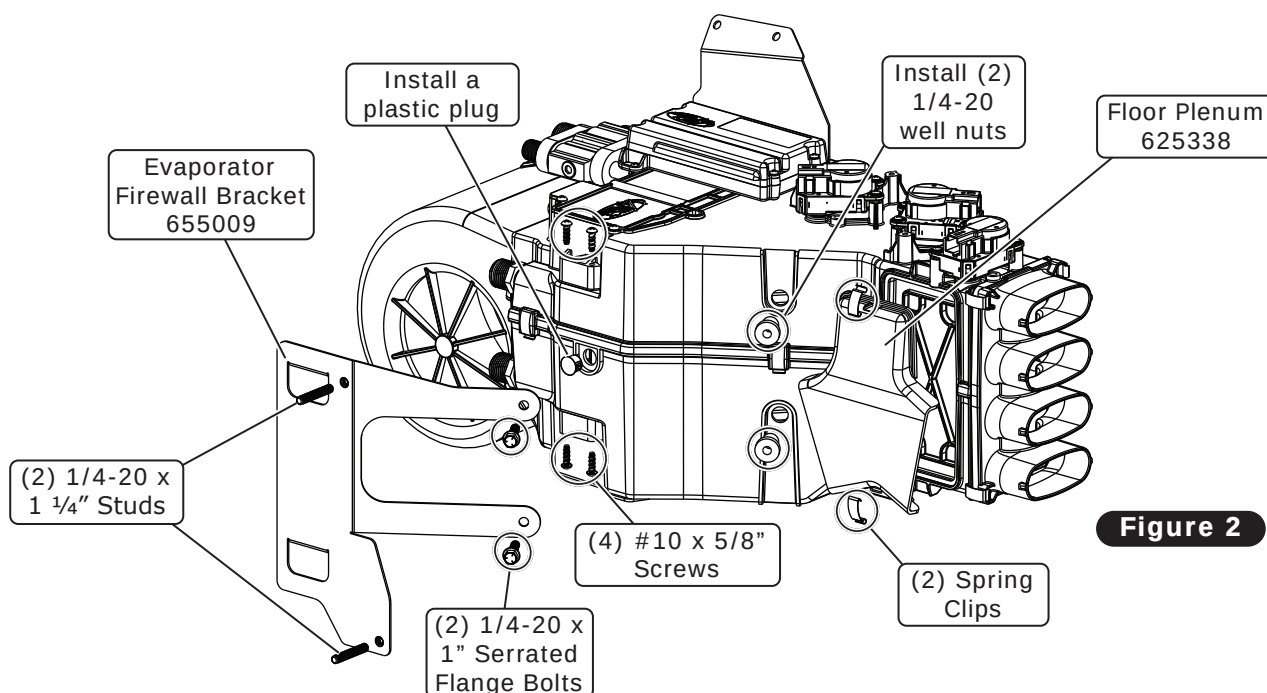

Figure 2
2. From the center of the bottom-left hole on the kick panel cover, measure 1 ½" down. Mark and drill a 5/8" hole for the 7/8" grommet (See Figure 2, below).
1. Install a 7/8" plug into the OEM hole on the firewall (See Figure 2, below).
3. Secure the fresh air cap to the firewall using (2) #14 x 3/4" sheet metal screws (See Figure 2, below).
5. Install a plastic plug at the location shown in Figure 2, below.
6. Install (2) 1/4-20 well nuts as shown in Figure 2, below.
7. Install the floor plenum onto the evaporator module using (2) spring clips (See Figure 2, below).
8. Install the evaporator firewall bracket onto the evaporator module using (4) #10 x 5/8" screws and (2) 1/4-20 x 1" serrated flange bolts (See Figure 2, below).
9. Install (2) 1/4-20 x 1 1/4" studs onto the evaporator firewall bracket as shown in Figure 2, below.
4. Lift the evaporator module up under the dash. Align the studs with the mounting provisions on the firewall cover. Temporarily secure in place using (2) 1/4-20 nuts with star washers from the engine side of the firewall.
6. Place the front evaporator mounting bracket onto the cowl. Using the bracket as a template, drill (2) 3/16" holes into the cowl. Secure the bracket using (2) #14 x 3/4" hex sheet metal screws (See Figure 2, below).
7. Replace the studs in the firewall with (2) 1/4-20 x 3/4" flange head bolts.